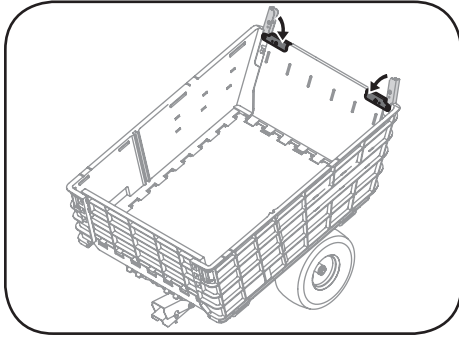

Figure 3-8
- When the tailgate is in position, secure it in place by snapping the tailgate latches onto the tailgate. See Figure 3-8.